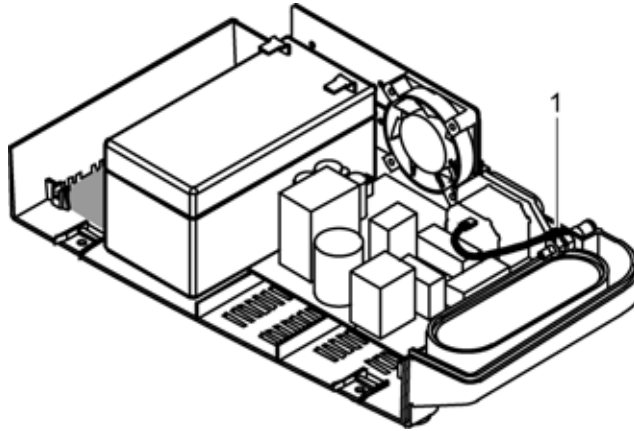

Figure 37: Ground Wire
3. Remove the AC connector ground wire from the equipotential ground terminal. See Figure 37.